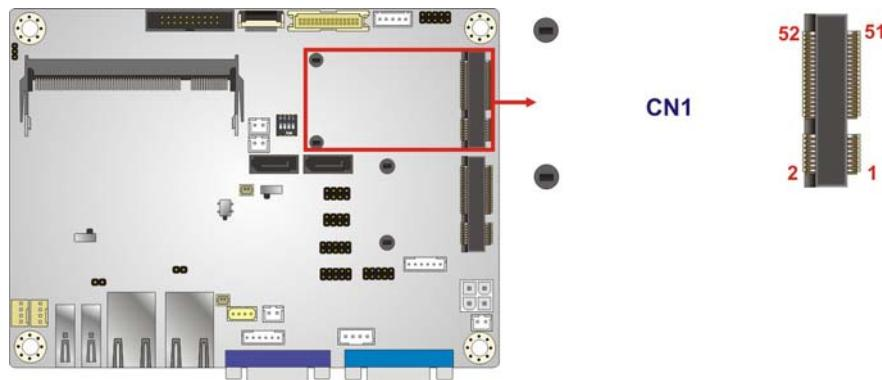

Figure 3-16: PCIe Mini Card Slot Location
**CN Location:** See Figure 3-16